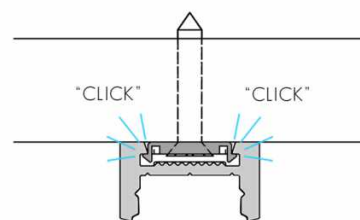

FIG. 4 - SCREW FIX FOR PLASTERBOARD INSTALLATIONS.
DRAW A STRAIGHT LINE AS A GUIDE FOR DRILLING JOINERY MOUNTING CLIP HOLES. IF INSTALLING ON PLASTERBOARD, PLEASE PROCEED TO FIG. 4 ON THE FOLLOWING PAGE.
**WARNING:** MOUNTING CLIPS ARE SUITABLE FOR JOINERY INSTALLATIONS ONLY. WHEN MOUNTING TO PLASTERBOARD, EXTRUSION MUST BE SCREW-FIXED. SEE FIG. 4.